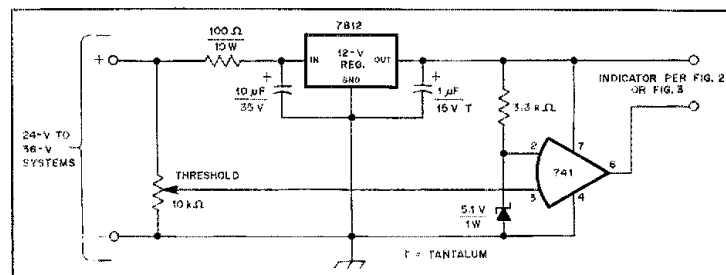

Fig. 4 — Higher-voltage systems such as found in airplanes and boats, necessitate voltage regulation before the comparator to avoid damaging it.
Fig. 4 — Parts-placement diagram for the reference boards. Components are mounted on the nonfoil side. Gray areas represent unetched copper. (A) and (C): Parts-placement diagrams for the reference components mounted on the nonfoil side. Gray areas represent unetched copper. (B) and (D): Etching patterns for the reference boards. Patterns are shown actual size from the foil side of the board. Black areas represent unetched copper. Good engineering practice requires all unused inputs to be grounded. This was not done on these boards. Wire jumpers can be added to correct this fault.
Fig. 4 should suffice. At these relatively high input voltages, the rating of the 741 op amp can be exceeded by a transient condition. A voltage-dropping resistor and regulator are added to bring the operating voltage within the rating of the 741. This little "rascal" is the hit of the golf-cart set!